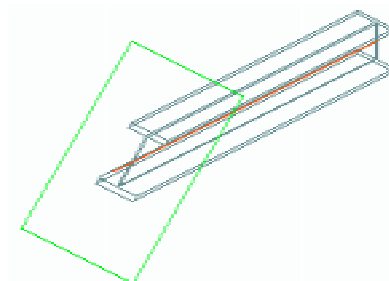

Figure 109: Beam trimming, rotation of the end plane
**Example 1:** Beam trimmed by 100 mm, beam end plane rotated by 30° (see Figure 109)